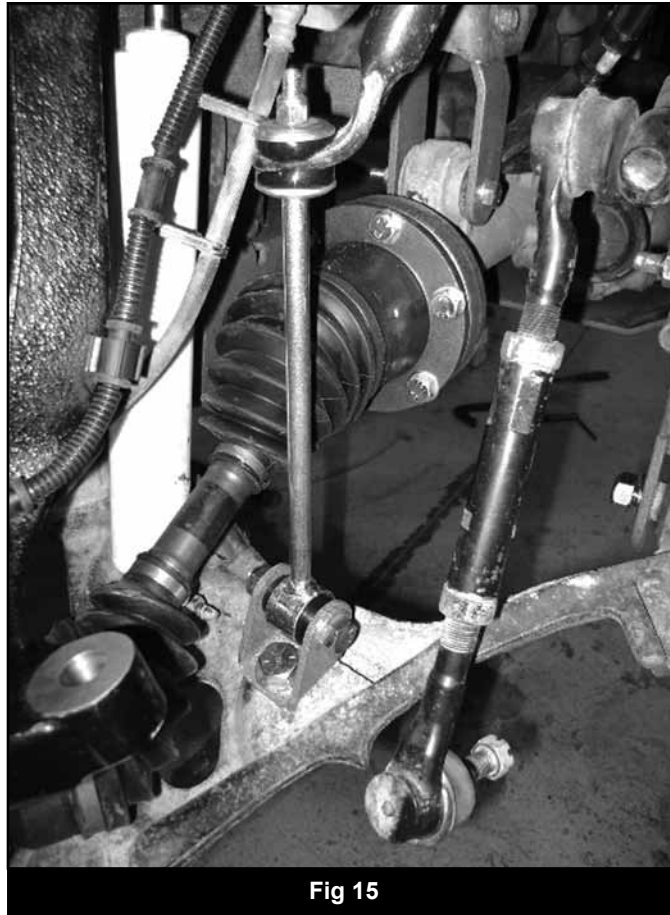

Fig 15
53. Install a provided stem washer (S10076) then a stem bushing (SB26BK) on the top ends of the sway bar links. Align the links with the sway bar holes and slide the sway bar unto both the links. Install a second stem bushing and then a washer on the sway bar link ends. Fasten the assemblies with the provided 7/16" nylock nuts (BP#569). Tighten nuts just until the bushings begin to swell. (Fig 15)